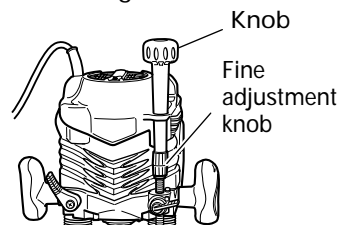

Fig. 6
- (1) Attach the accessory knob to fine adjustment knob. (Fig. 6)